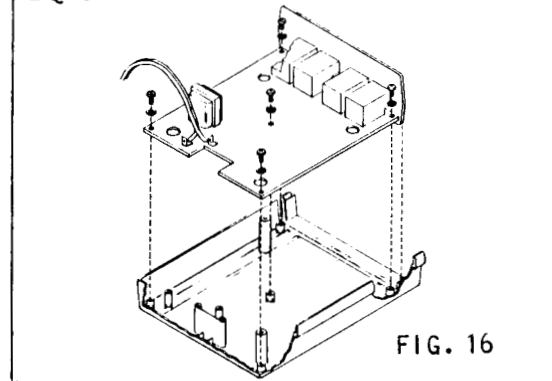

FIG. 16
3. Remove the five screws and washers holding the printed circuit board in place (see Fig. 16)